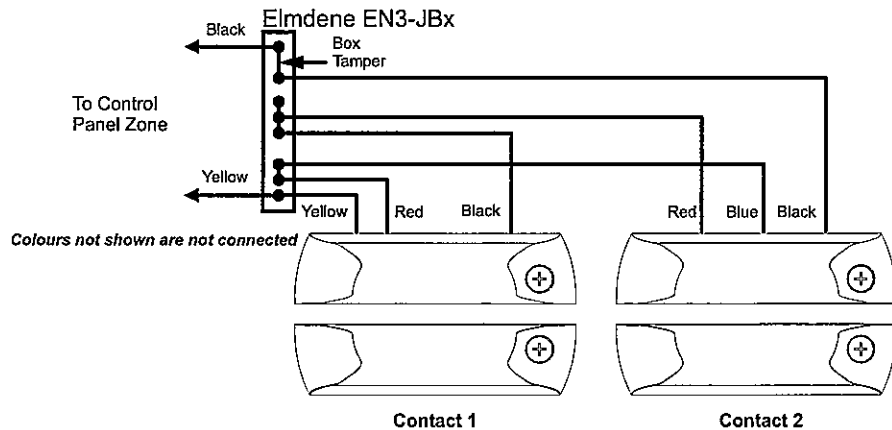

Figure 5
- Fully supervised loop - Single leaf door - Parallel mode connection Figure 5